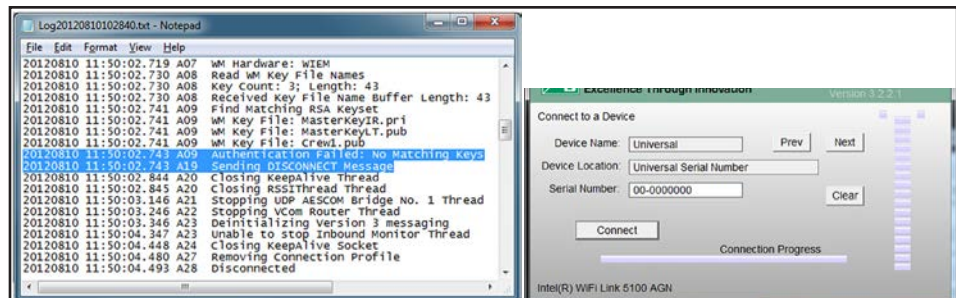

Figure 78. The Wi-Fi Connection Manager dialog box.
- STEP 10.** Go to \Users\Public\Documents\S&C Electric\LinkStart for Windows 10/ Windows 11 and open the Wi-Fi log file with the most recent date. Note the statement “Authentication Failed: No Matching Keys,” followed by “Sending DISCONNECT Message.” See Figure 78.